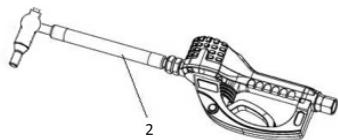

FIG. 3
- Thread extension tube fitting (2) into meter outlet with at least three full turns. (FIG. 3). Do not use a twist/lock or manual shut-off nozzle. You must use an automatic nozzle on the meter or the meter could be damaged.